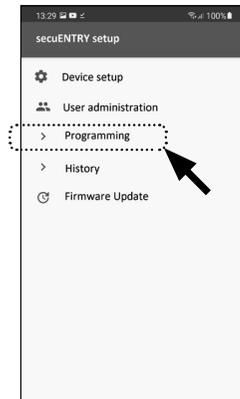

Fig. 69
- ③ Tap on "Programming" in the submenu (Fig. 69).